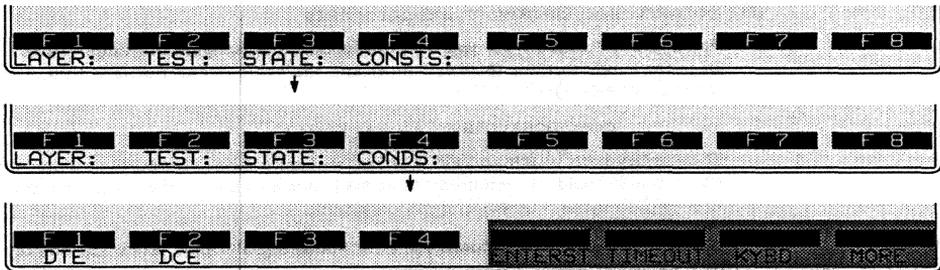

Figure 42-4 To monitor line conditions, first select *DTE* or *DCE*.
- A group of conditions and actions at Layer 2 on the Protocol Spreadsheet that facilitate SS#7 programming. Figure 42-4 shows the softkey path to the first rack of condition softkeys when the SS#7 package is loaded in at Layer 2.
When the Layer 2 SS#7 personality package is loaded in (via the Layer Setup screen), a set of conditions checks DTE and DCE leads both in monitor and emulate modes. This set of conditions is accessed by the DTE and DCE selections on the first rack of condition softkeys at Layer 2. See Figure 42-4.